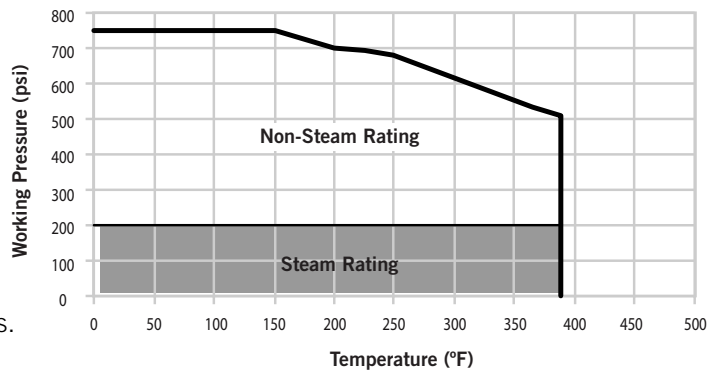

Figure 1
- For nonsteam applications, joints utilizing the Style 870 Coupling provide working pressures ranging from full vacuum (29.9 inches Hg/ 760 mm Hg) up to 740 psi/5102 kPa, depending upon maximum system temperature. Please refer to Figure 1 for specific pressure/temperature ratings.